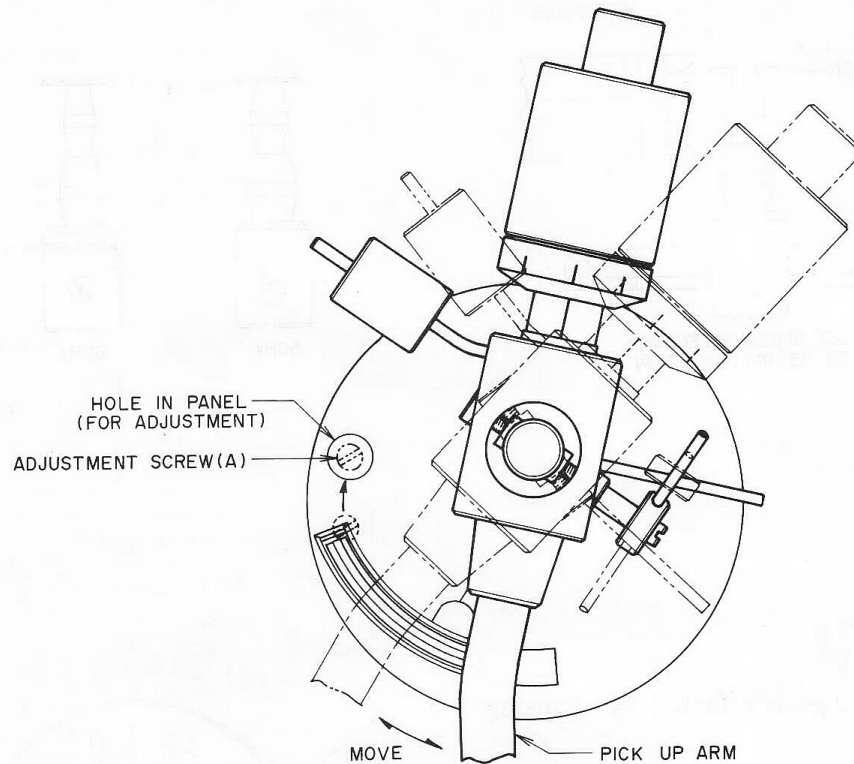

Fig. 1
Remove the rubber plug on panel toward the rear part of the pick up arm. When the pick up arm is moved as shown in Fig.1, Adjustment Screw (A) becomes accessible through the hole from which the rubber plug has been removed. When Adjustment Screw (A) is turned clockwise, stop position will be advanced and when turned counter-clockwise, stop position will be delayed.